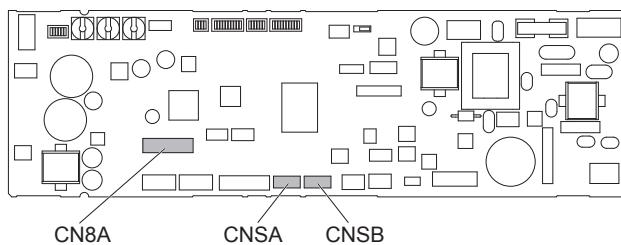

Fig. 5-9
4. Connect to the optional lead wire circuit board connector. (Fig. 5-9)